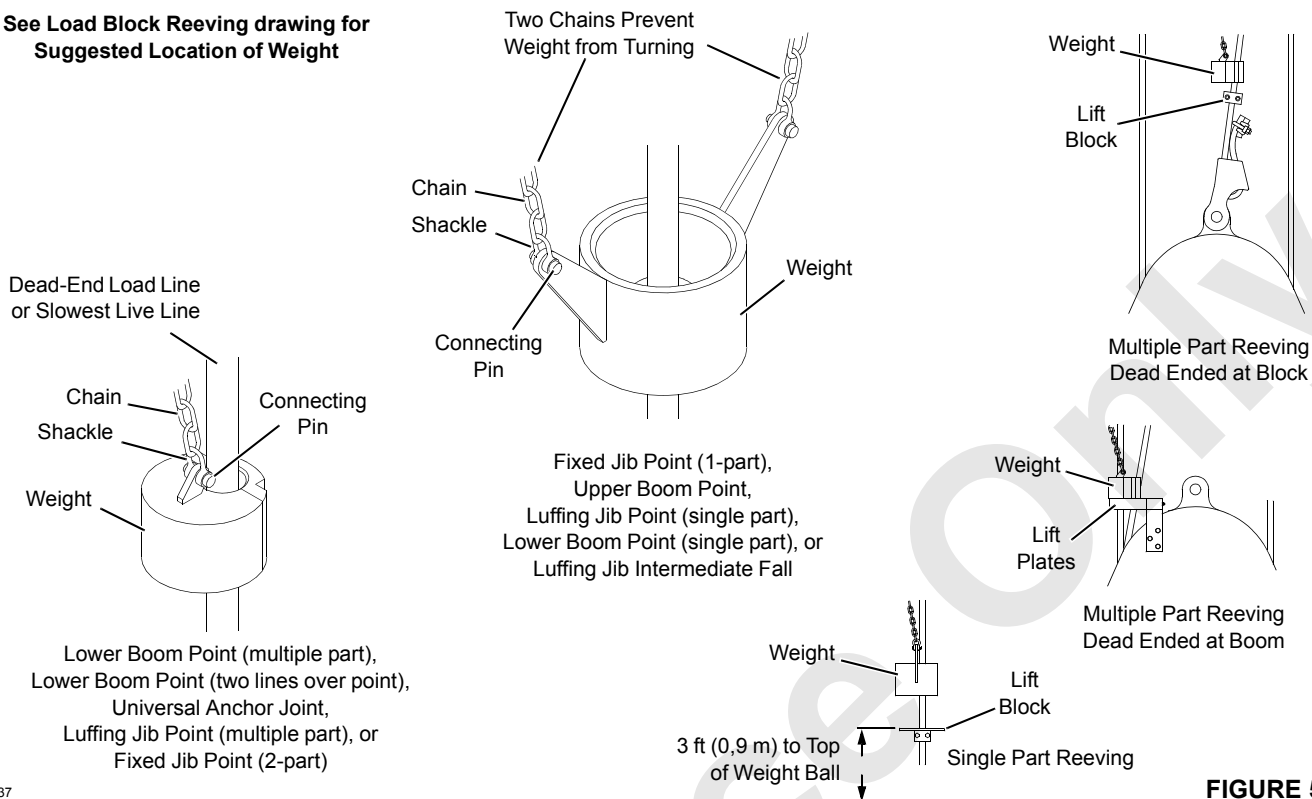

FIGURE 5-7
2. Weight freely suspended by chain from each limit switch actuating lever (weight encircles load line as shown in Figure 5-7).
3. Lift block fastened to load line or lift plates fastened to load block (see Figure 5-7).
See Figure 5-7 for installation of the weights.